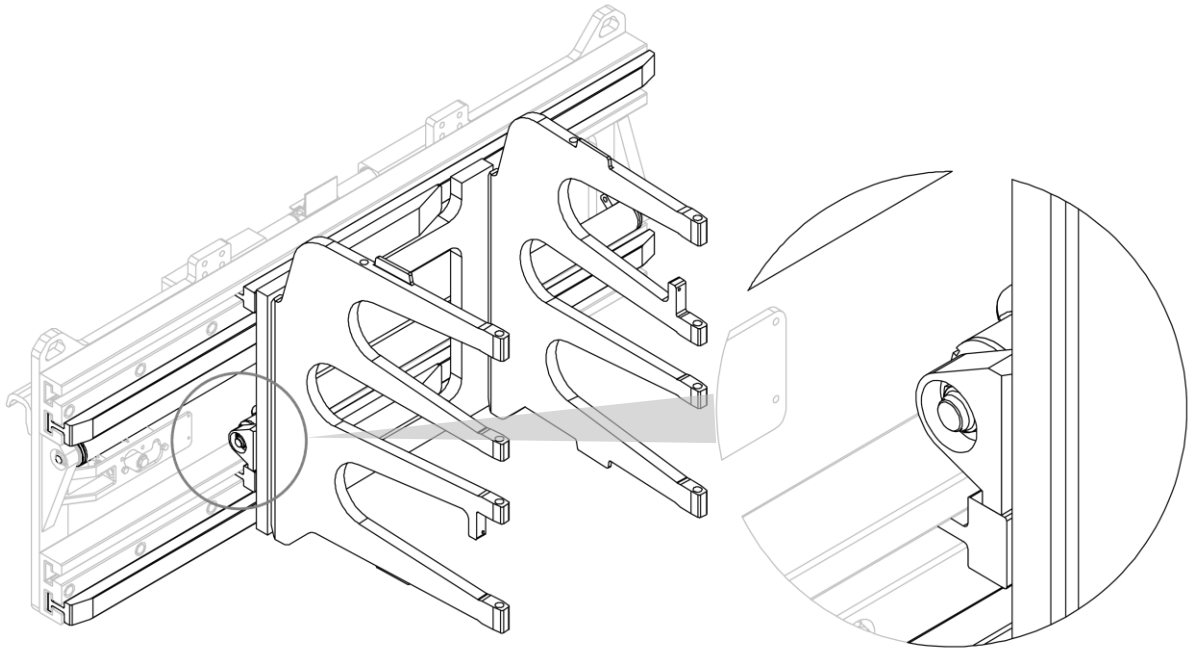
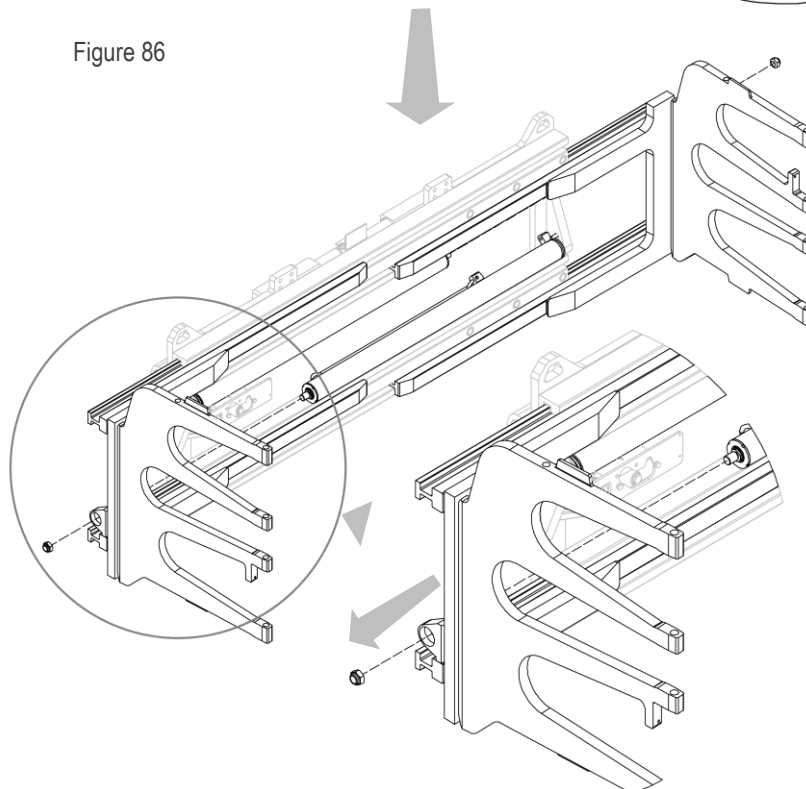

Figure 86
Figure 87
3. Remove the forks, one at a time, from their housings after removing the nuts that secure them to the cylinders (see *Figure 86* and *Figure 87*).